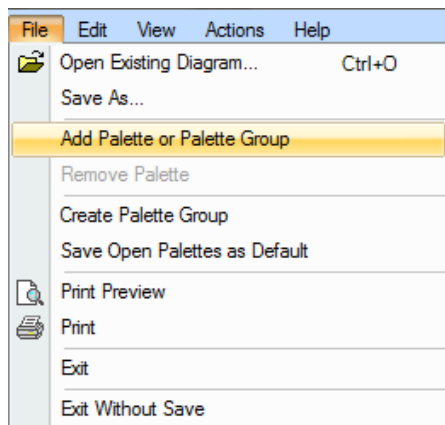

Figure 112. File Menu – Add Palette or Palette Group
1. Select **Add Palette or Palette Group** from the **File** menu, as shown in Figure 112. The TraCS palette files display.